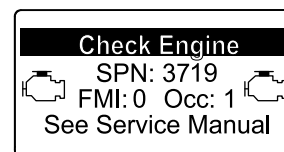

Figure 44
- Engine warning SPN 3719, FMI: 0 (Figure 44)